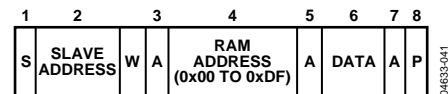

Figure 36. Single Byte Write to RAM
- To write a single byte of data to RAM. In this case, the command byte is the RAM address from 0x00 to 0xDF and the only data byte is the actual data, as shown in Figure 36.